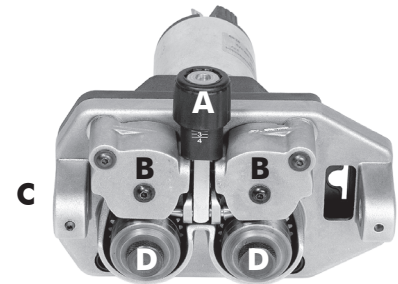

Figure 3
- Loosen and lower the plastic knob (A) (Fig.3). Open the pressure arm (B) of the feeder.
- Cut off a short section of the end of the wire to insure a straight end. Insert the straight end into the wire inlet guide (C) past the wire feed roll and into the wire liner.